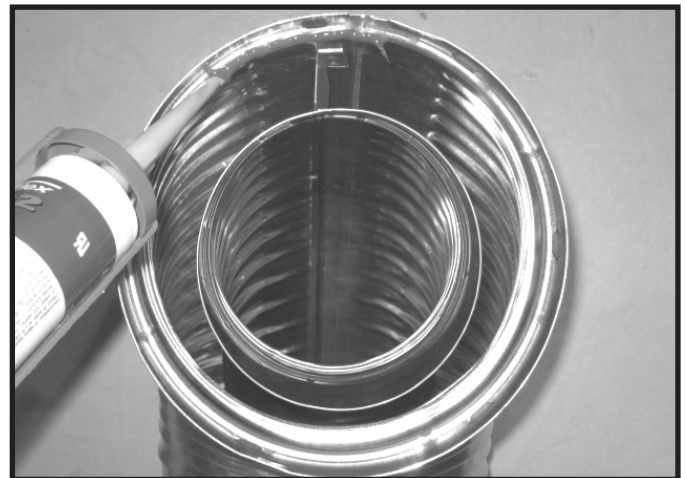

Figure 7.1 High Temperature Silicone Sealant
- Apply a bead of silicone sealant (300 °F (149 °C) minimum continuous exposure rating) inside the female outer pipe joint prior to joining sections. See Figure 7.1 **OR**